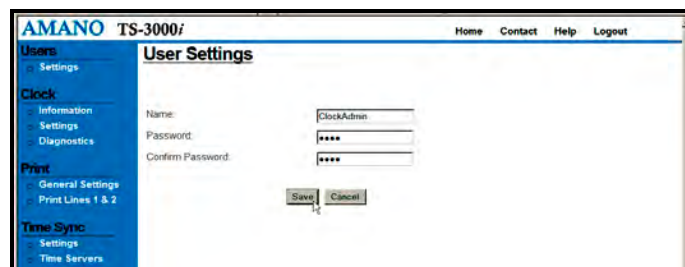

Figure 4-3. User Settings.
Step 2. Click on the **Add** button to create a new user, and the **User Settings** screen will appear (see *Figure 4-3*).